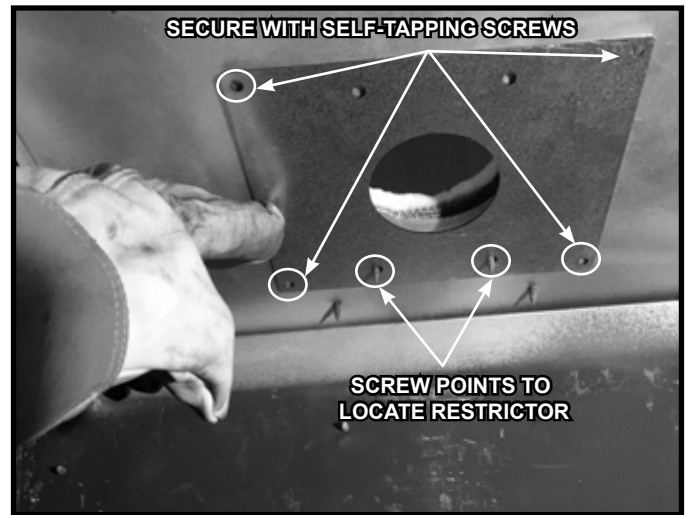

Figure 5.9 Natural Gas Restrictor Plate
3. Remove four (4) screws holding baffle in place.
4. Locate natural gas restrictor plate on screws points coming through firebox top. Secure in place with four (4) self-tapping screws (located in manual bag). See Figure 5.9.